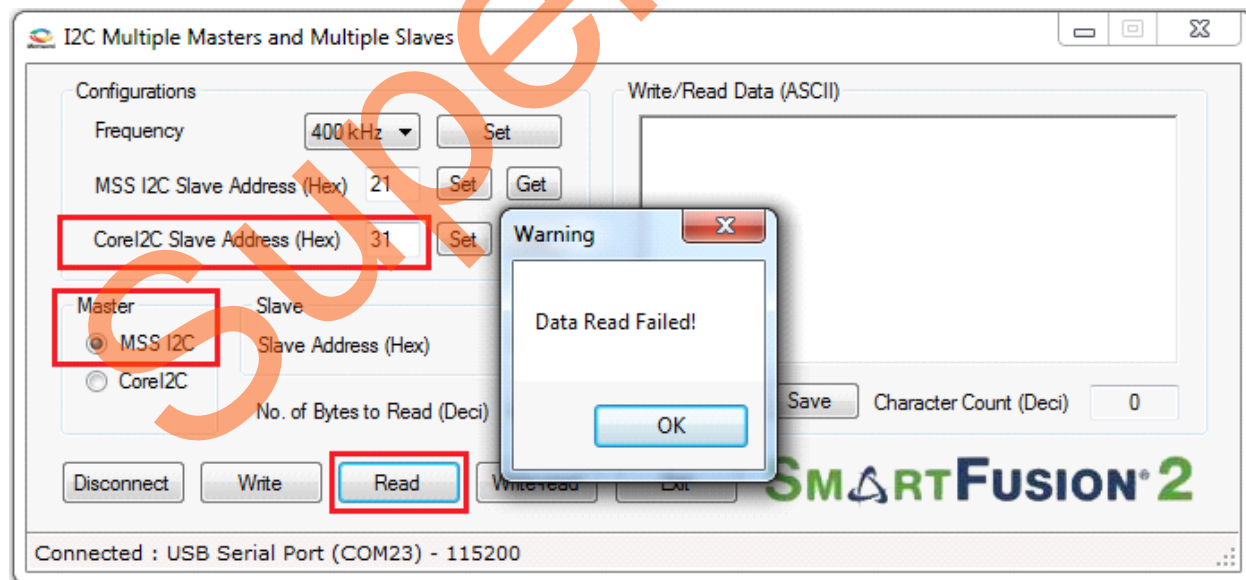

Figure 19 • Read Error
3. Read or write error occurs due to the non-availability of the selected Slave or due to connection problem. To validate error detection, one of the I2C Slaves SDA line must be removed from the SmartFusion2 Evaluation Kit board. Remove either I2C Header - H1 (7) or GPIO Header - J1 (62) pin and perform an I2C transaction. Figure 19 shows the read error message when the MSS I2C Master tries to read from the CoreI2C Slave.
4. Connect the removed flying lead to GND and perform an I2C transaction to test the time out. Figure 19 shows the time out message when the MSS I2C Master tries to read from the CoreI2C Slave.